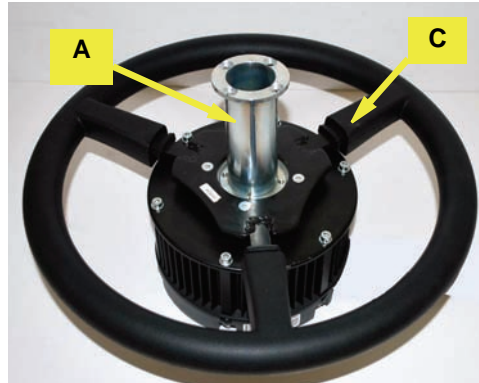

Figure 2b: Inserting splined shaft adapter into steering wheel
- b. Place the VSi steering wheel **C** on a clean surface with the wheel facing up. Insert splined shaft adapter **A** into steering wheel **C** (Figure 2b).